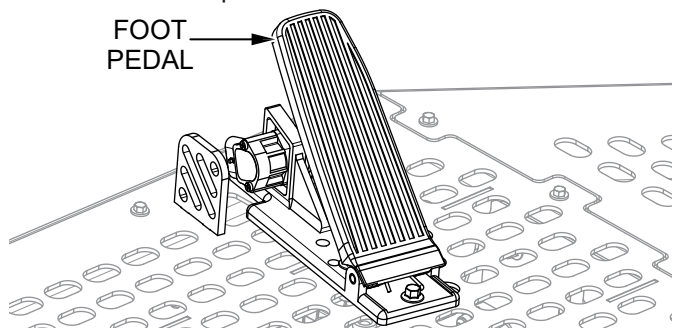

Figure 27. Foot Pedal
The **foot pedal** (Figure 27) controls engine and rotor speed. The position of the foot pedal determines the rotational speed of the blades. Lightly depress the foot pedal to rotate the blades slowly. Increase pressure on the foot pedal to increase rotor speed. Fully depress the foot pedal to rotate the blades at full speed.
1. Start the engine and depress the **foot pedal** (Figure 27) to increase engine speed.